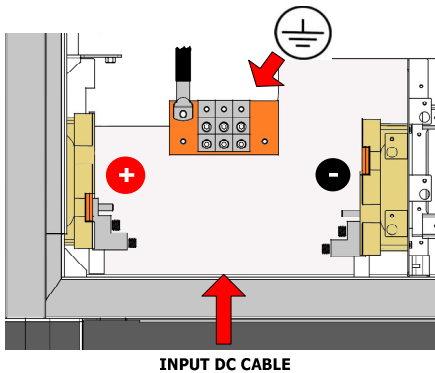

Figure 5-5: DC Cable Input
5.2.1 ACBOX (A)(F)
The connection area of DC cables coming from the photovoltaic field is located in the (F) area of the ACBOX (with frontal view to the left of the inverter). Positive inputs are on the left and negative inputs on the right (Figure 5-5). The numbers corresponding to “MODULI 50 kW” go from the outermost (module 1) to the innermost one.